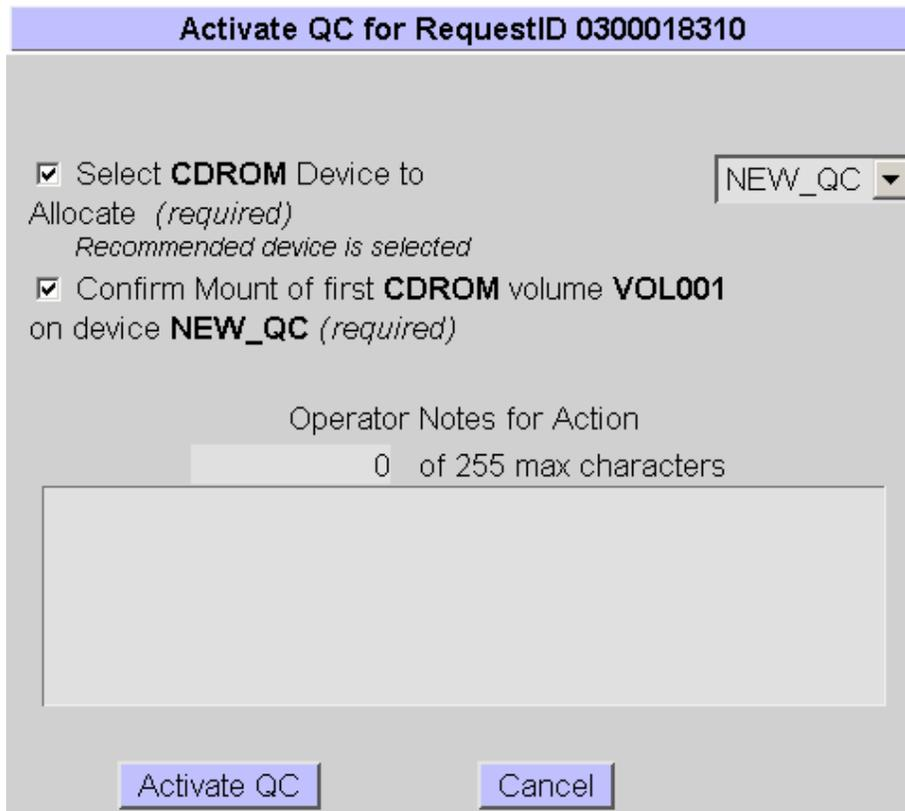

Figure 15.12-3. Activate QC Dialog Box
- The **Activate QC for RequestID** dialog box displays (Figure 15.12-3).